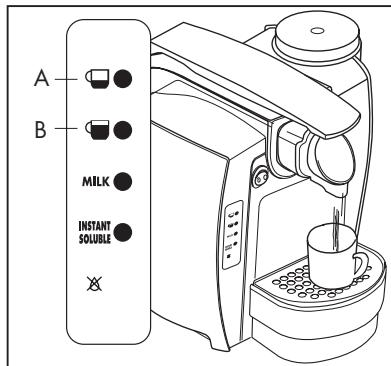

Fig.8
Large cup: Press and hold the button (B). The machine will start delivering water. Once the desired water level is reached release the button (B). The machine will then stop delivering water and the desired quantity will be stored for future dispensing. (**Fig.8**)
Small cup: Press and hold the button (A). The machine will start delivering water. Once the desired water level is reached release the button (A). The machine will then stop delivering water and the desired quantity will be stored for future dispensing. (**Fig.8**)